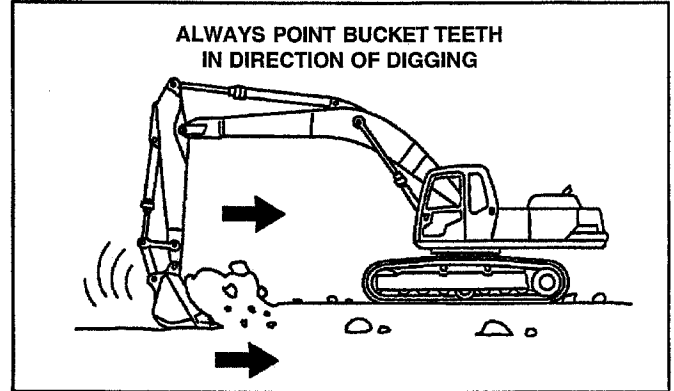

FIGURE 3.43
C. Bucket Teeth Direction- FIGURE 3.43